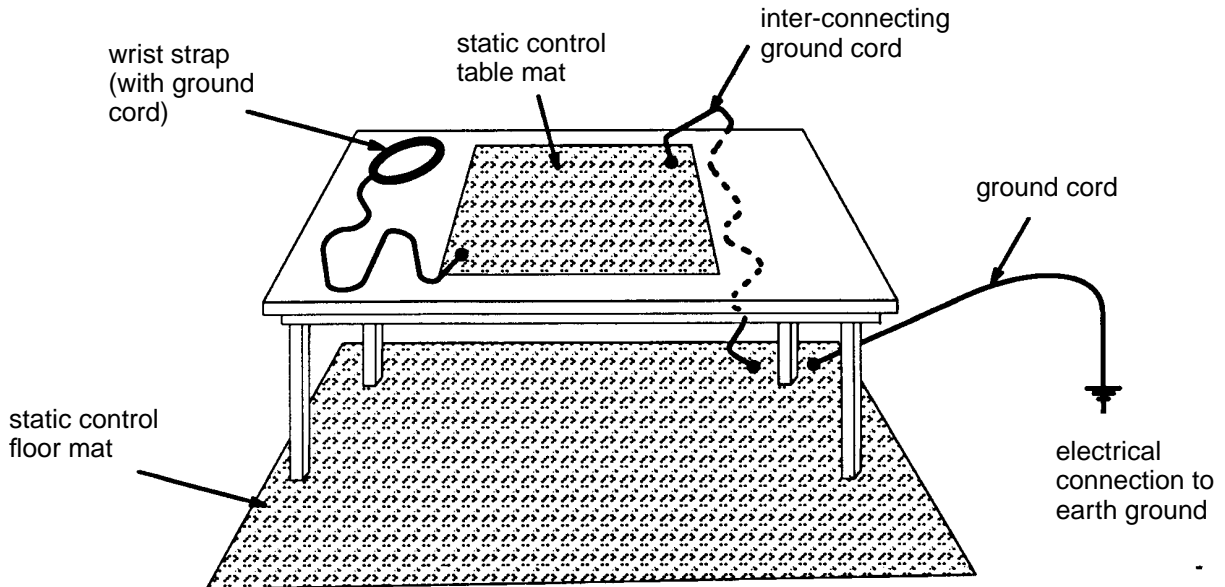
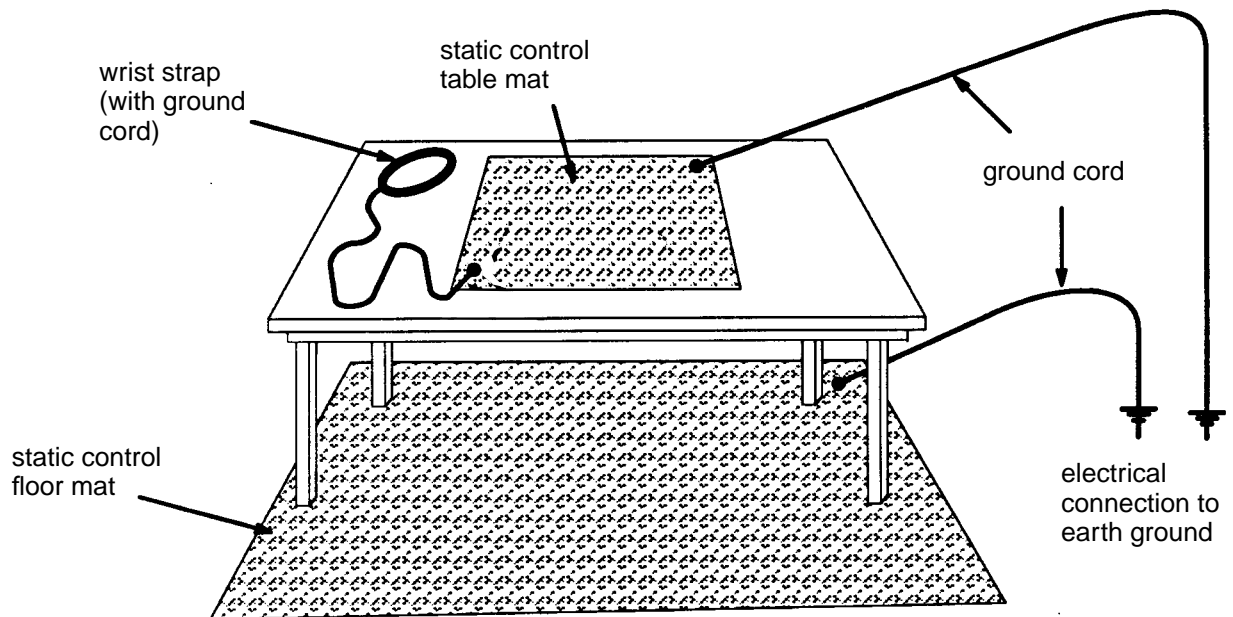

Figure 2 - Set-Up of Static Free Work Stations
Figure 3 - Alternate Set-Up of Static Free Work Stations
- 4.2.5 3M #8020 static free work station grounding kit, components as listed below. Set up static free work stations as shown in Figure 2. As an alternative to the set-up shown in Figure 2, static free work stations may be set up as shown in Figure 3. It is acceptable for the wrist strap ground cord to be connected to the same ground lug as the table mat ground cord or directly to an electrical connection to earth ground. As an alternative to the 3M #8020 static free work station grounding kit, it is acceptable to equip static free work stations with static dissipative table mats, floor mats, wrist straps and ground cords with a resistance of  $10^6$  -  $10^9$  ohms; it is **not** acceptable to use conductive ( $10^5$  or less ohms) or insulative ( $10^{10}$  or more ohms) table mats, floor mats, wrist straps or ground cords.